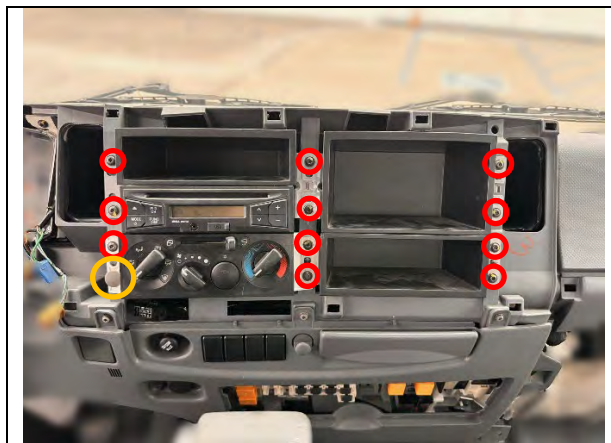

Figure 17
17. Remove the eleven (11) T25 screws securing the cluster compartments, radio and A/C control panel and the one (1) clip for the A/C control panel. (See Figure 17.) Remove the cluster compartments and Radio. Do not remove the A/C Control panel. If the vehicle is equipped with an aftermarket radio, follow the radio manufacturer's instructions for removal.